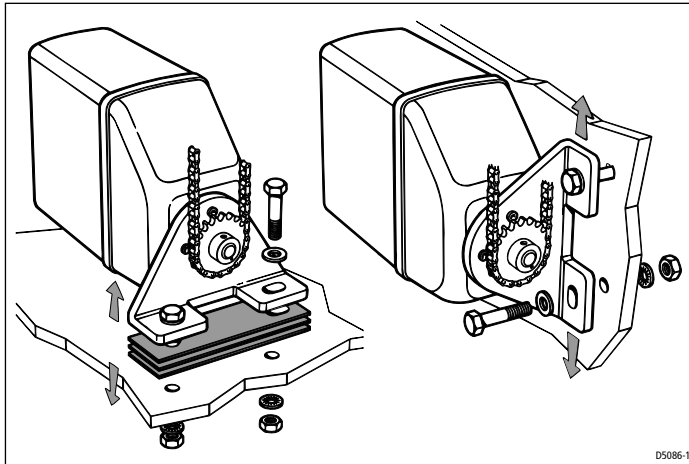

Figure 6: Adjusting chain tension
- If necessary, you can rotate the mounting foot through 90 degrees to provide a more convenient mounting position (as shown in *Figure 6*). To do this: remove the four screws securing the mounting foot to the drive unit, rotate the mounting foot, then replace the screws.
- Drives mounted horizontally: place as many of the supplied shims as necessary under the mounting foot (see *Figure 6*).
- Drives mounted vertically: use the slots in the mounting foot to move the drive up or down (see *Figure 6*).